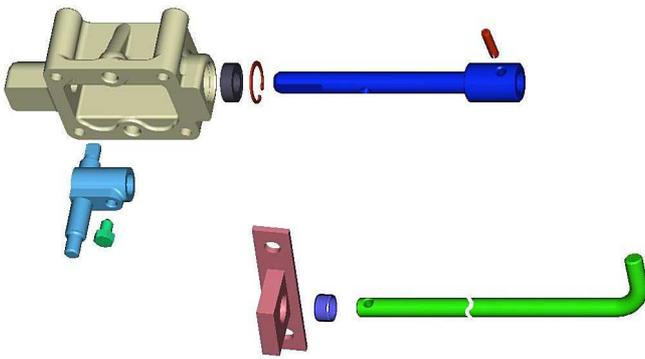

Fig.5-33 Main shift lever linkage
- b. Sub assemble the shifter stay, spring, and steel ball(Fig.5-33) and install the sub-assembly on the front transmission case(Fig.5-34).